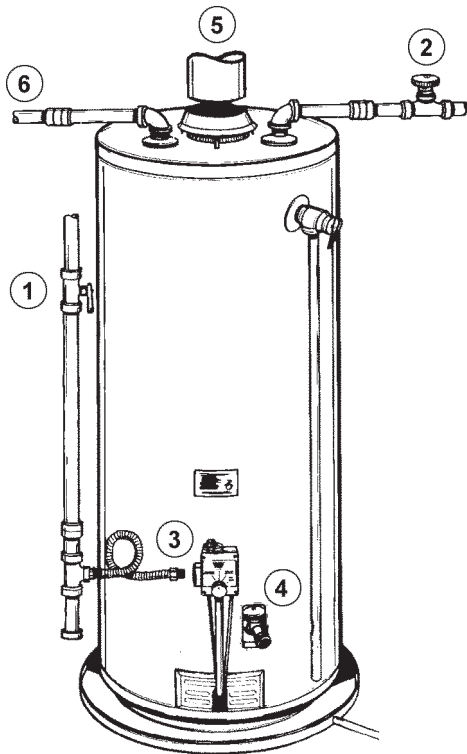

FIGURE 1.
- Carefully plan the place where you are going to put the water heater. Correct combustion, vent action, and vent pipe installation are very important in preventing death from possible carbon monoxide poisoning and fires, see figure 1 and 2.
If the main gas line Shut-off valve serving all gas appliances is used, also shut "OFF" the gas at each appliance. Leave all gas appliances shut "OFF" until the water heater installation is completed, see Figures 1 and 2.
2. Turn "OFF" the water supply to the water heater at the water shut off valve or water meter. Some installations require that the water be turned off to the entire house, see Figures 1 and 3.
4. Attach a hose to the water heater drain valve and put the other end in a floor drain or outdoors. Open the water heater drain valve. Open a nearby hot water faucet which will relieve pressure in the water heater and speed draining. The water passing out of the drain valve may be extremely hot. To avoid being scalded, make sure all connections are tight and that the water flow is directed away from any person, see Figures 1 and 4.